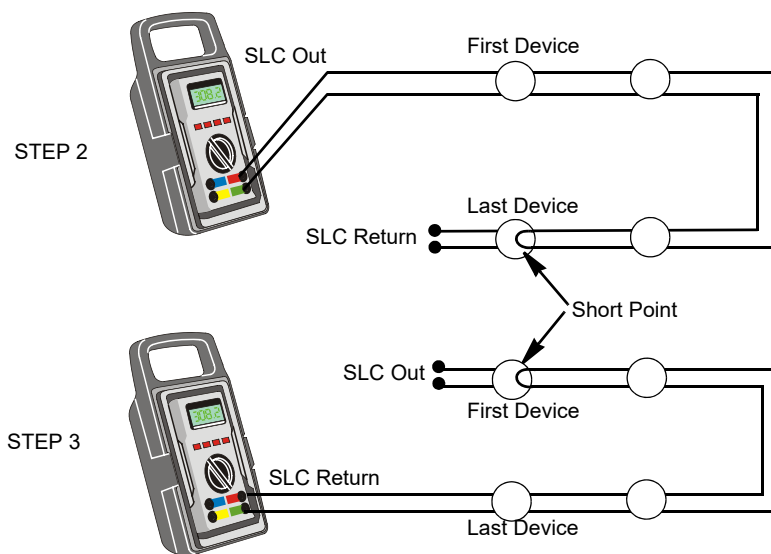

Figure 2.3 Measuring DC Resistance of a Four-Wire SLC
2. Short the SLC at the last device and measure the resistance at SLC Out. Record resistance and remove the short. Refer to Figure 2.3.
3. Short the SLC at the first device and measure the resistance at SLC return. Record resistance and remove the short. Refer to Figure 2.3.